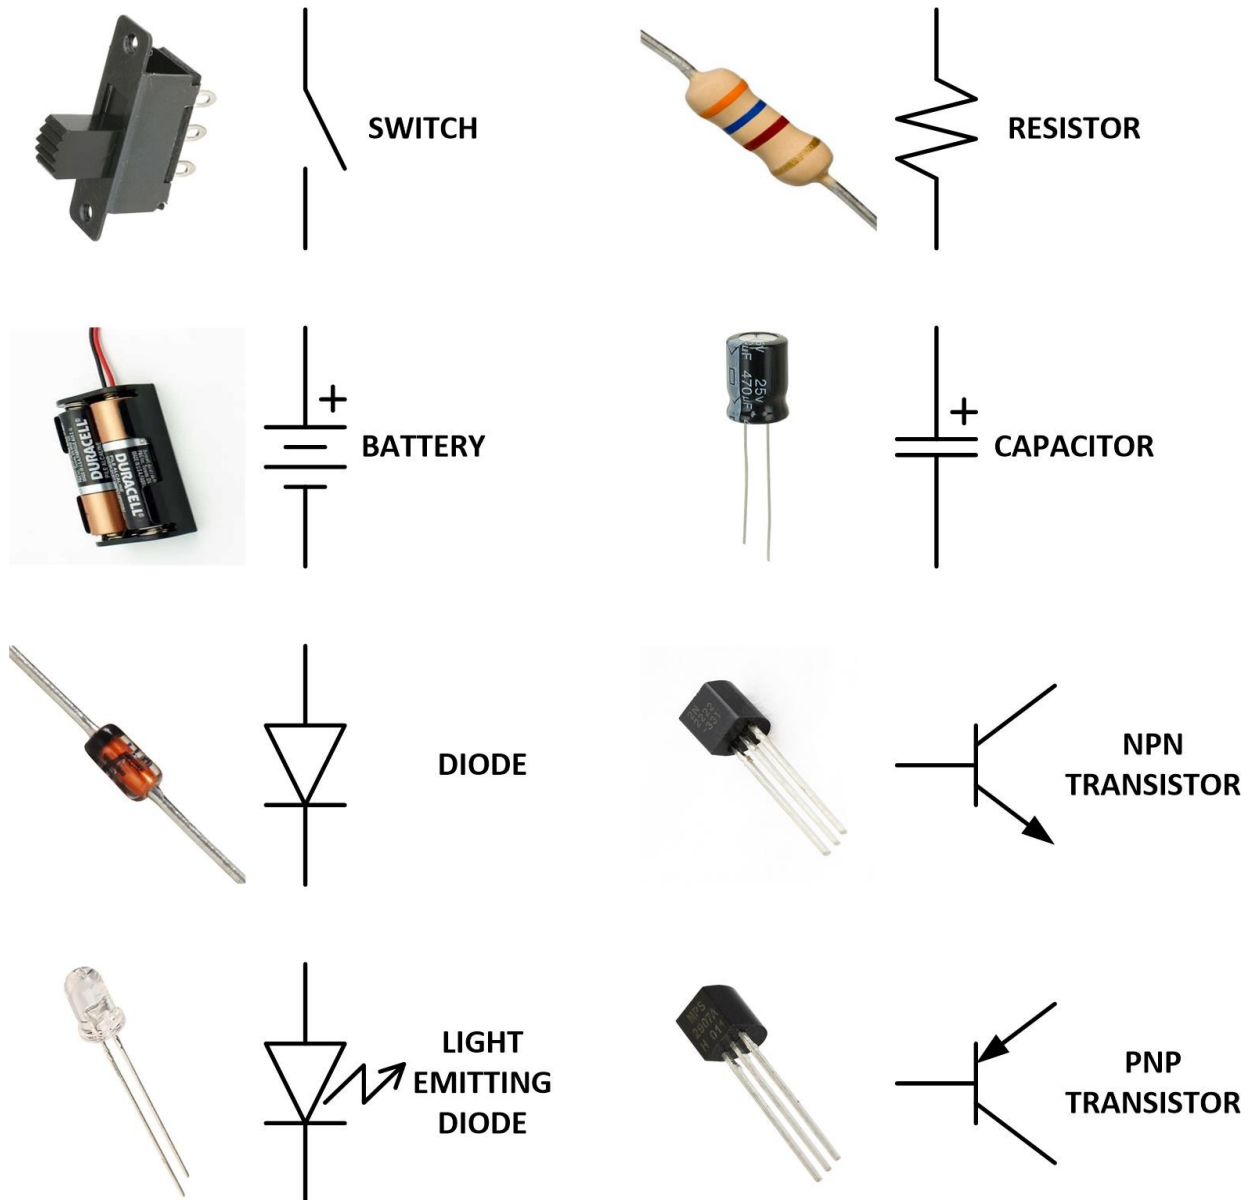

Figure 3: Electronics Prototyping Board
4. Examine the Electronics Prototyping Board. See Figure 3.
- c. The board has 10 columns by 17 rows of holes. Each hole is an electrical socket, with a metal spring contact, connecting it to the four adjacent holes, on the same side of the same row of the board as shown by the blue lines in Figure 3.